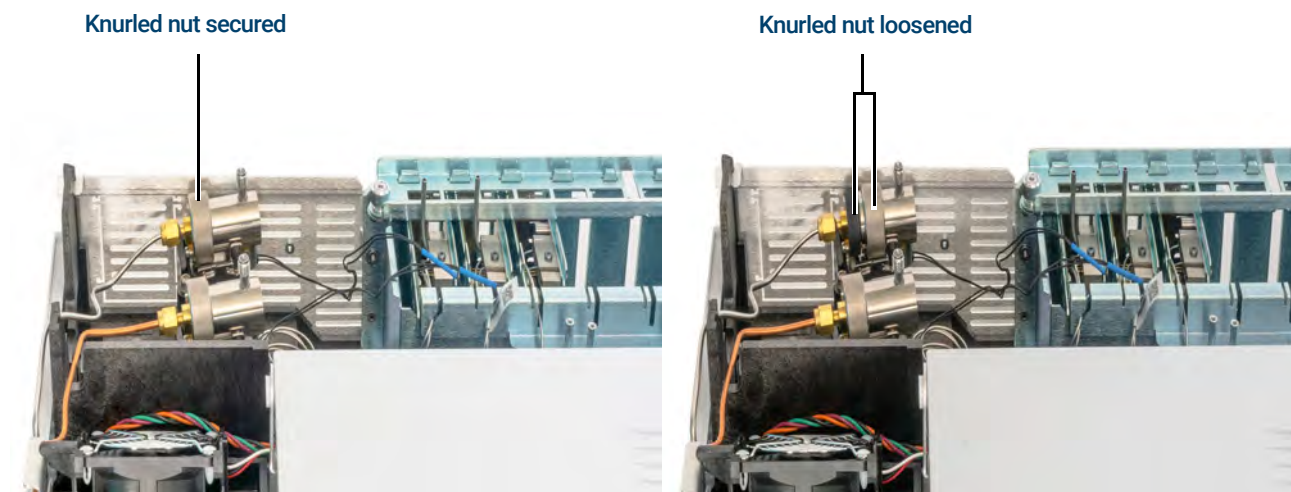

Figure 22. Loosen the knurled nut
- 4 Completely loosen the knurled nut that secures the split vent trap in place as shown in **Figure 22**.